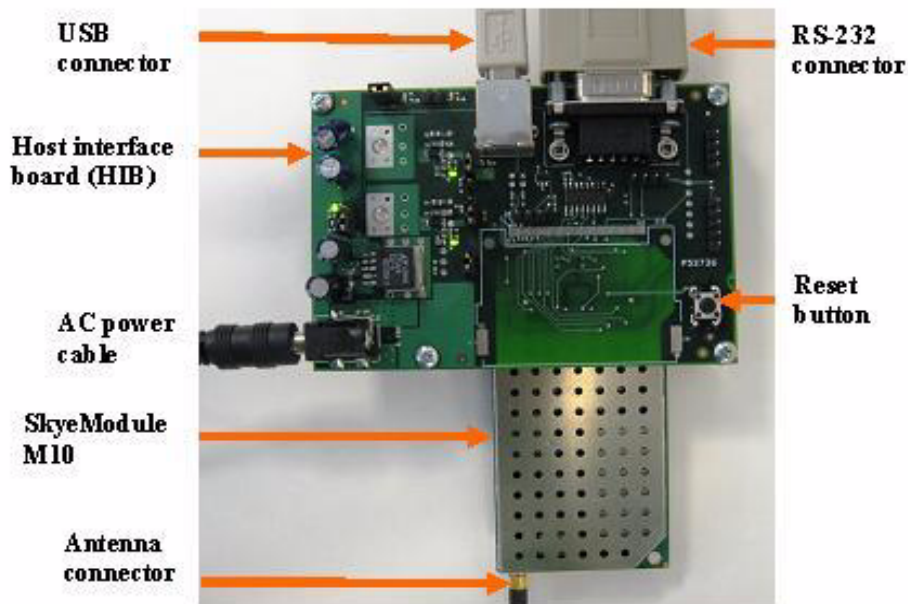

Figure 2-3 Hardware Connections for a SkyeModule M10
- Use the following checklist to verify that the connections are correct (see Figure 2-3):